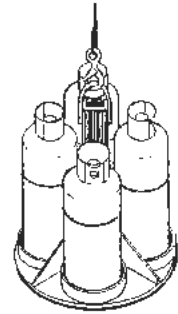

Figure 4
- Use a hoisting cradle to move cylinders from one level to another (Figure 4).